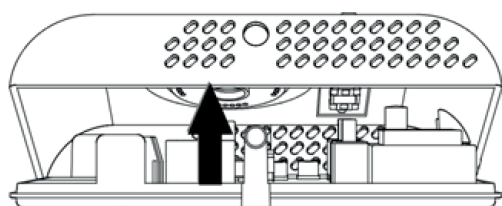

Fig. 5
- 4 Turn the cover, while pressing it slightly, until it is fully extracted (Fig. 5).